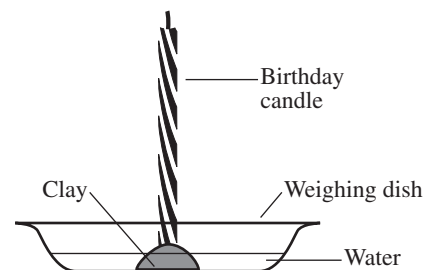

Figure 4.
2. Add water to the bottom of the weighing dish, about halfway up the piece of clay. See Figure 4.